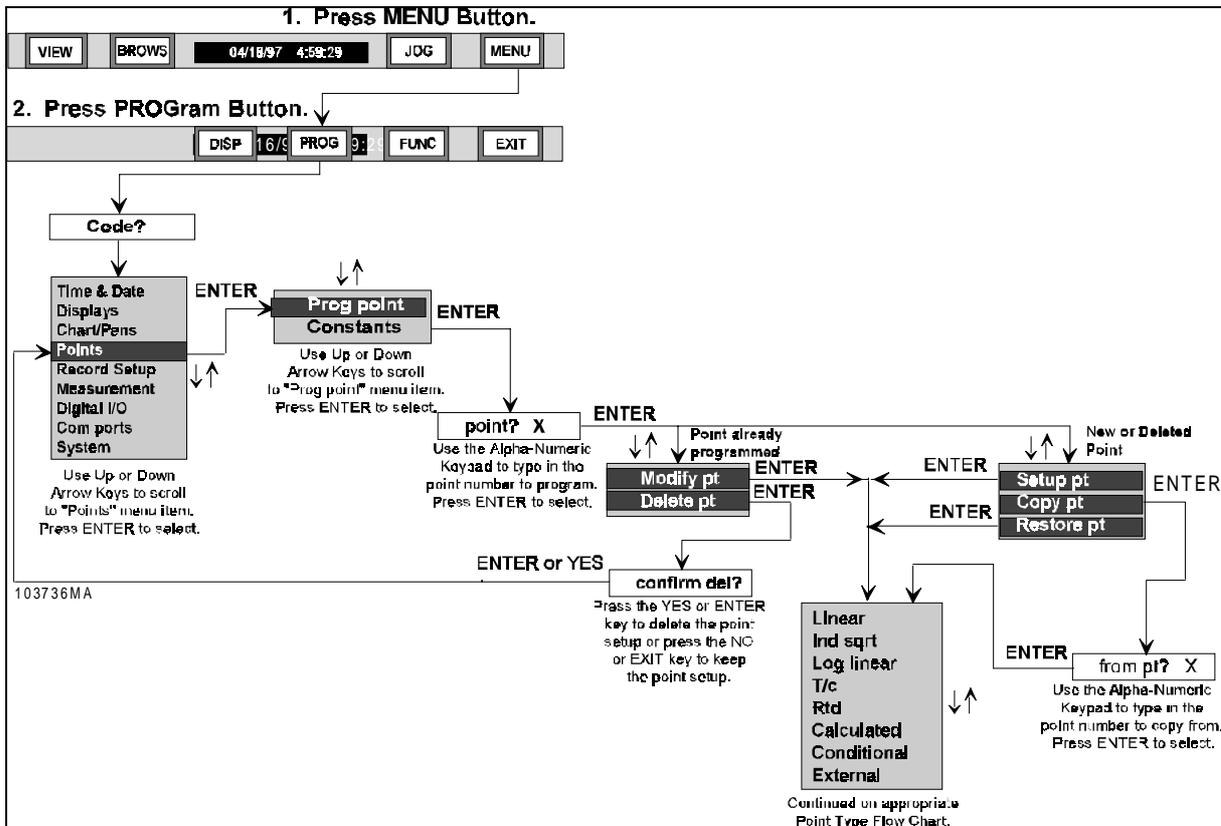

Figure 4-11 Point Setup Flow Chart
4.6.3 Program point. This menu item is available through the Program Menu that allows the user to setup, copy, restore, modify, or delete a point's parameters. The programming sequence follows a general order for custom programming and the system prompts you to submit various parameters. Refer to Figure 4-11, Points Setup Flow Chart.
B. Point Options - After a point number is chosen, if the point is a new point to program, the point can be setup from scratch, copied from another point already setup, or restored if the point had been setup previously and then deleted. If the point chosen has already been setup, the point parameters may be modified, or the point may be deleted. Refer to the following steps and to Figure 4-11 to program a point.